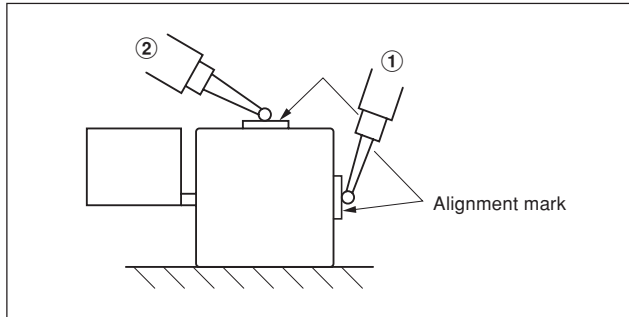

Fig. 3-7 Parallelness check of scale part and machine table movement
Place a pick tester or dial gauge directly where the alignment mark (Fig. 3-7 ①) is positioned on the side of the scale part, and check that the scale part is surely mounted parallel to the machine table movement.
**(5) When the specified parallelism for the scale mounting bracket is not obtained**
Insert spacers below the feet and make adjustment by placing a pick tester or dial gauge at ② in Fig. 3-7 to adjust the parallelism to within 0.08 mm/0.03" throughout the length between may be obtained at the alignment marks.